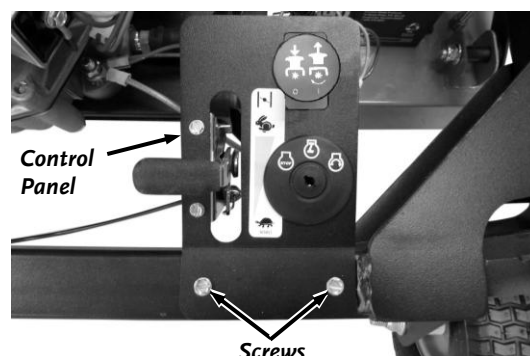

Figure 16
15. Remove the Screws from the Frame using a 5/16" Wrench and install Control panel to the Frame (**Figure 16**).